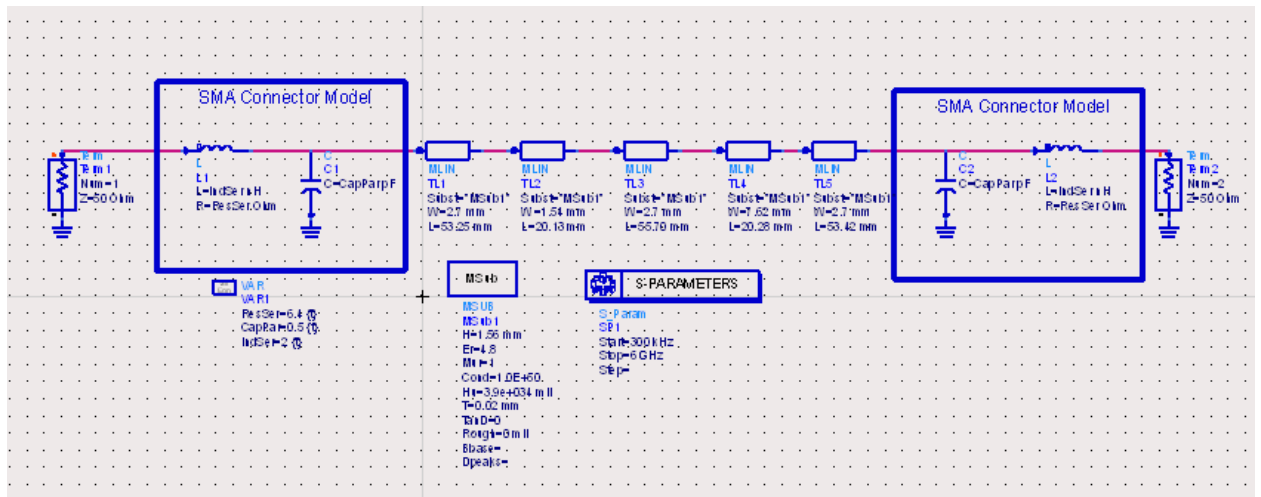

Figure 9: The completed microstrip line model included the SMA connector models at both the input and the output.
- 8) We now attempt to improve the model by providing a simple lumped element model for the SMA connector. Our simple model for an SMA connector is a series resistor and inductor and a shunt capacitor, as shown in Figure 8. Lumped elements can be found in the “Lumped-Components” library. The inductor lumped element model also contains a series resistance parameter that can be used instead of having an actual series resistor, as the figure denotes. An SMA Connector Model should be made for both the input and the output, as shown in Figure 9. Good values for the inductor, resistor, and capacitor are 6.4 ohms, 2 nH, and 0.5 pF, respectively. Use the tuning feature in ADS to tune your R, L, C values in order to optimize your lumped model. The link below is to a video that describes how to tune your parameters to optimize the match of your model to your measurements in ADS.